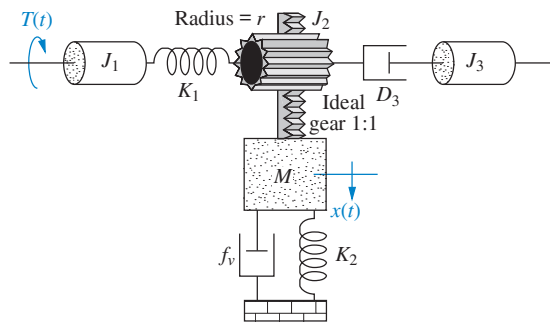

FIGURE P2.29
44. Given the combined translational and rotational system shown in Figure P2.29, find the transfer function,  $G(s) = X(s)/T(s)$ . [Sections: 2.5; 2.6]